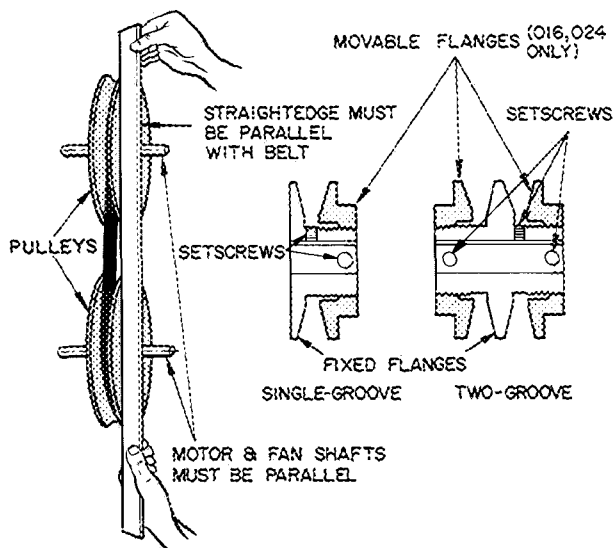

Fig. 21 — Indoor Air Fan Pulley Adjustment and Alignment
3. Loosen movable pulley flange setscrew (Fig. 21).
PULLEY ALIGNMENT — *Shut off unit power supply* Make sure motor and fan shafts are parallel. Align shafts by loosening motor on mounting bracket if required. Then loosen fan pulley set-screws, slide pulley along fan shaft and align with straightedge as shown in Fig. 21.